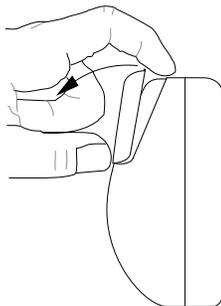

Figure 4. Removing the Small Cover
1. Remove the small cover (see Figure 4).
1. Remove the sensor cover (see Figures 4 and 5) and set it aside.